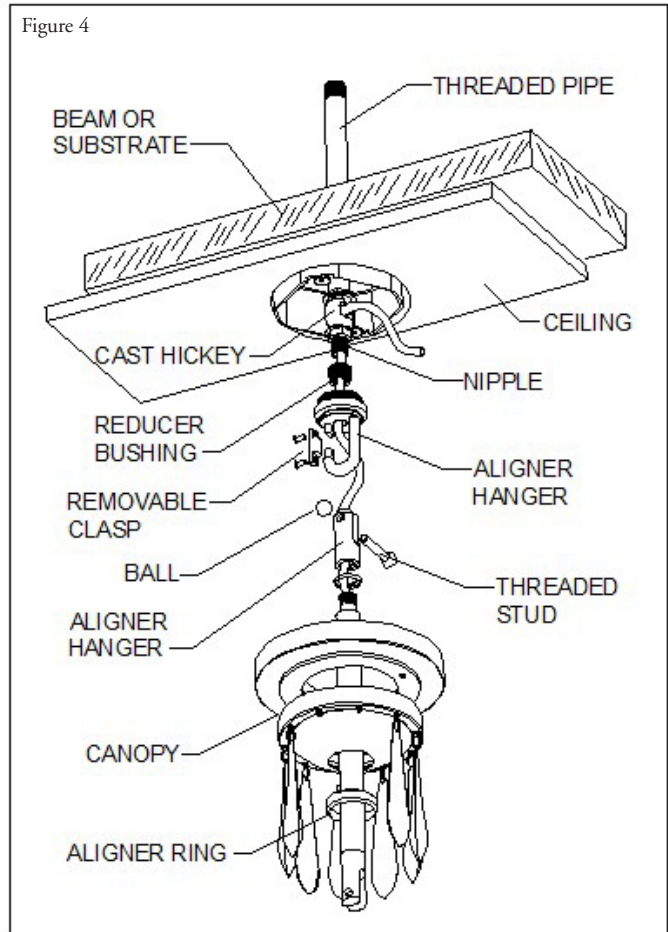

Figure 4
Step 11: Route the cord from the stem up and through the center of the aligner. Cord must be routed out of the cast hickey so that wire connections can be made at the junction box. (See Figure 4)